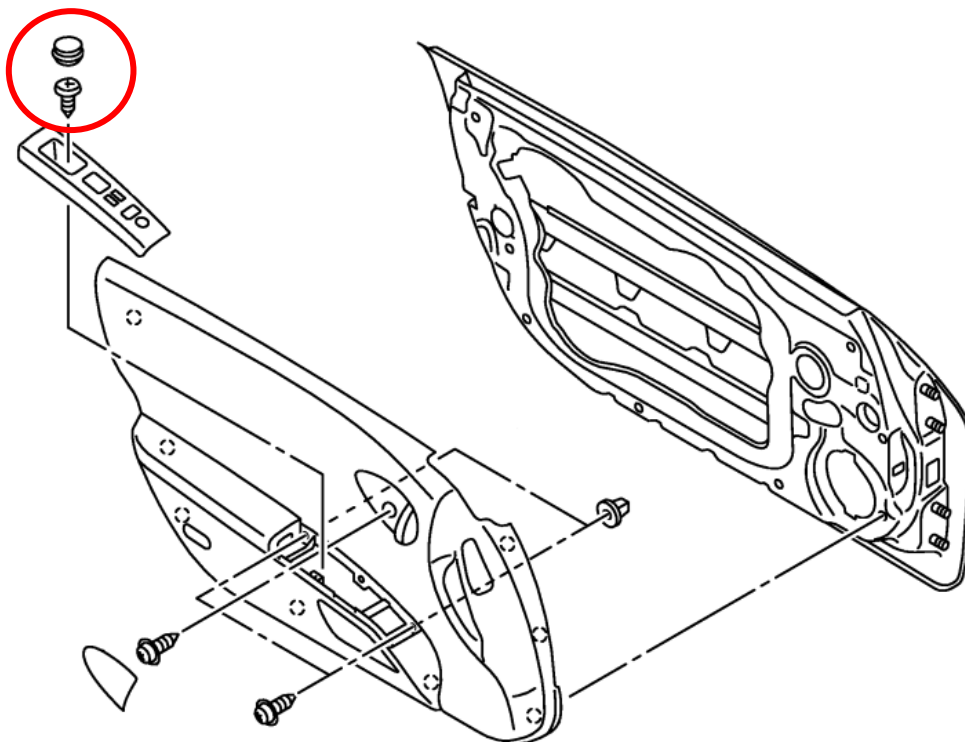

Figure 3
5. Remove the (1) one screw in the Door Control Panel. *Figure 3.*